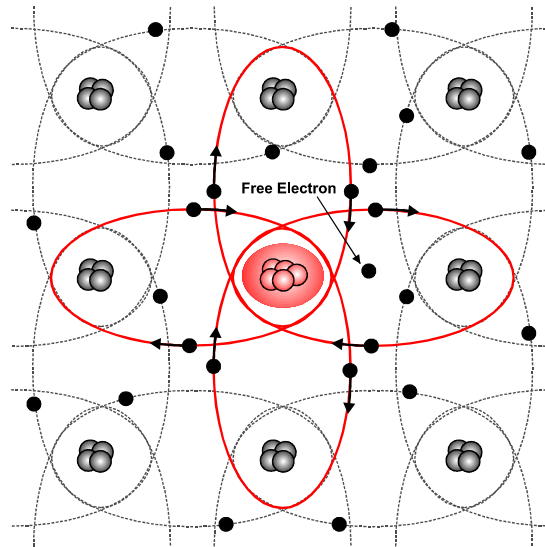

Figure 1.9
The impurity atoms could be **pentavalent** or **trivalent**. For example, if an atom with five valence electrons (a pentavalent atom) is added to intrinsic silicon, four of its valence electrons will form covalent bonds with the adjacent silicon atoms and one electron will remain free. Thus, the doping process creates an additional free electron, without leaving a hole. The material produced in this way is called **n-type** material, as most of its carriers are electrons. This is illustrated in Figure 1.9. Most commonly used pentavalent impurity atoms are those of arsenic (As), bismuth (Bi) and phosphorus (P).